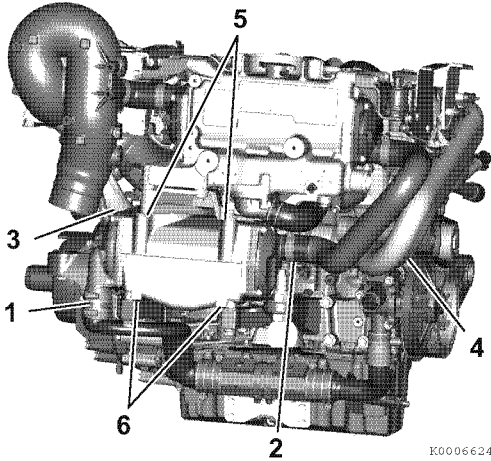

Figure 7-12
2. Disconnect seawater pipe between hydraulic oil cooler and charge air cooler (1, **Figure 7-12**).
3. Disconnect seawater pipe between charge air cooler and heat exchanger (2, **Figure 7-12**).
4. Disconnect pipe between charge air cooler and turbocharger (3, **Figure 7-12**).
5. Remove pipe between charge air cooler and intake manifold (4, **Figure 7-12**).
6. Remove two bolts (5, **Figure 7-12**) that attach heat exchanger to charge air cooler.
7. Remove four lower bolts (6, **Figure 7-12**) that attach charge air cooler. Remove charge air cooler assembly from engine.